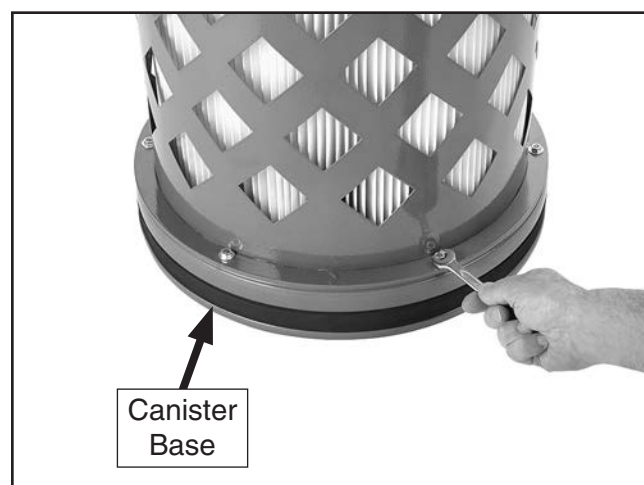

Figure 90. Removing the hex nuts and flat washers from the rim of the canister base.
5. Remove the six hex bolts, hex nuts, and flat washers from the rim of the canister base, as shown in **Figure 90**.